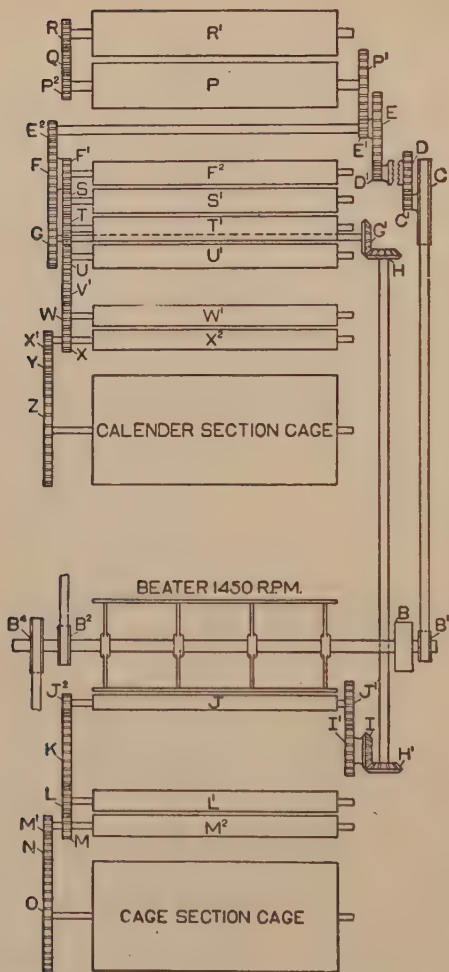

Figure 1. GEARING DIAGRAM OF BREAKER PICKER
Figure 1 represents a breaker picker. From our study of draft we know that:
EXAMPLE: Find the draft of the breaker picker in figure 1 if the gears and rolls are as shown in combination 1 of the table.
1. Find the draft of the breaker picker in figure 1 with gears and rolls as shown in combination 2 of the table.
2. Find the draft of the breaker picker in figure 1 with gears and rolls as shown in combination 3 of the table.
3. Find the draft of the breaker picker in figure 1 with gears and rolls as shown in combination 4 of the table.
It is evident from figure 1 that the R.P.M. of  $B^1 =$  R.P.M. of the beater. From what we have learned of pulleys, belts and gears, we see that:
**EXAMPLE:** *How many pounds of 14-oz. lap will be produced by the breaker picker in figure 1 equipped with combination 1 and an eight-inch feed pulley if the R.P.M. of the beater is as shown and allowing 10% for stoppage due to doffing, cleaning, etc.?*
*Find the production per 10-hour day of the picker in figure 1 equipped with combination 1, allowing 10% for stoppage if:*
EXAMPLE: What must be the size of the feed pulley of the picker in figure 1 to produce 4400 lbs. of 16-oz. lap in 10 hrs. if the beater makes 1450 R.P.M. and 10% is allowed for stoppage?